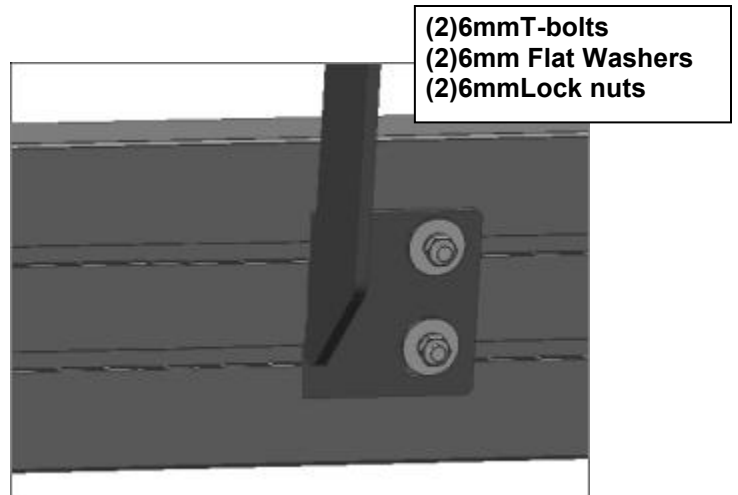

Fig 18 Bracket Installation
7. Once all (3) Brackets have been installed, Select a Running Board. Slip (12) 6mm T-Bolts into each bottom channel (**Figure 17**). Carefully position the Running Board onto the Mounting Brackets. Attach the Running Board to the Mounting Brackets with (2) 6mm T-bolts, (2) 6mm flat washers and (2) 6mm lock nuts, (**Figure 18**). Do not tighten hardware at this time